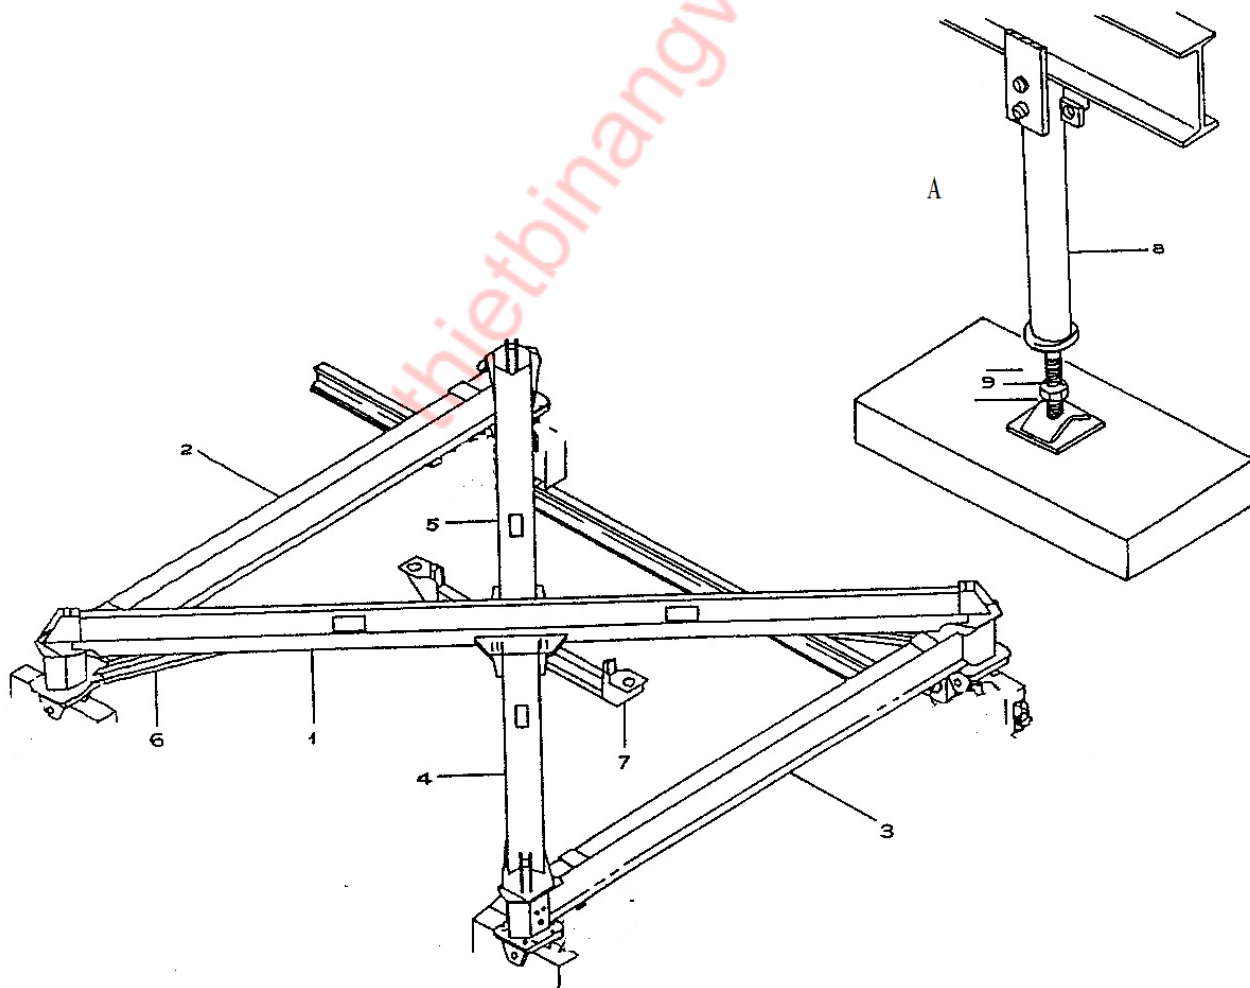

图 4-5 安装纵梁 Fig. 4-5 Fitting The Side Member
在横梁(2、3)上安装纵梁(1)，并拧紧螺栓，见图 4-5。
Fit and bolt member (1) on the crossbeams (2,3). See Figure 4-5.